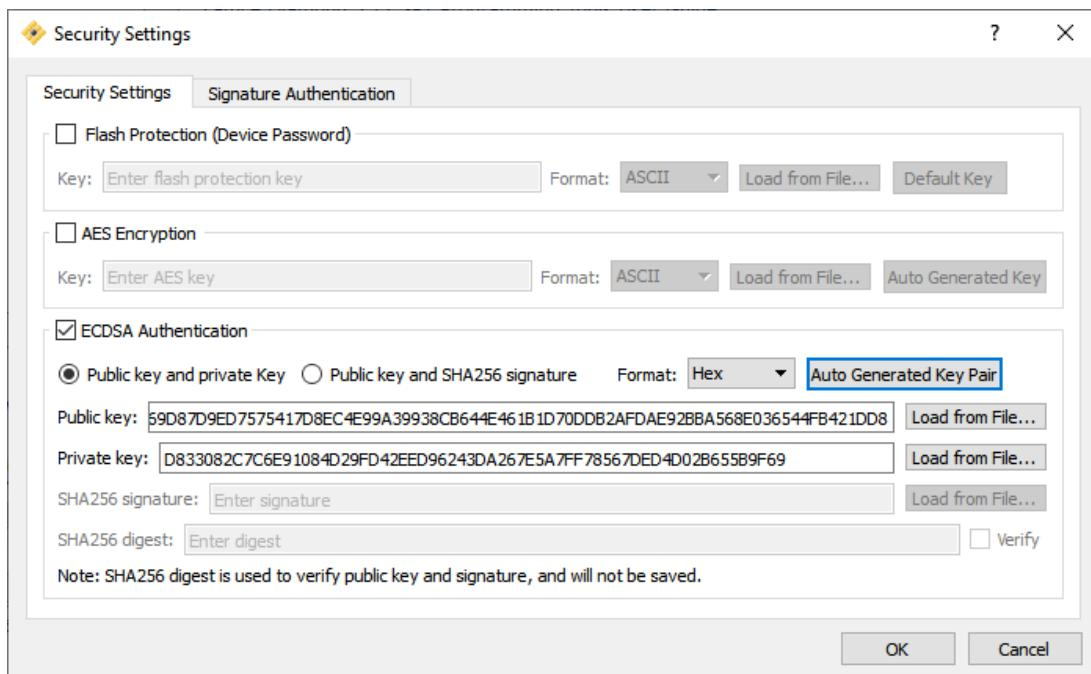

Figure 3.3. Select Auto Generated Key Pair
4. In the Security Setting pop-up, select **ECDSA Authentication**. Click on **Auto Generated Key Pair** shown in Figure 3.3. A public/private key pair will be generated. These settings are sticky and will only need to be completed one time for this design project.